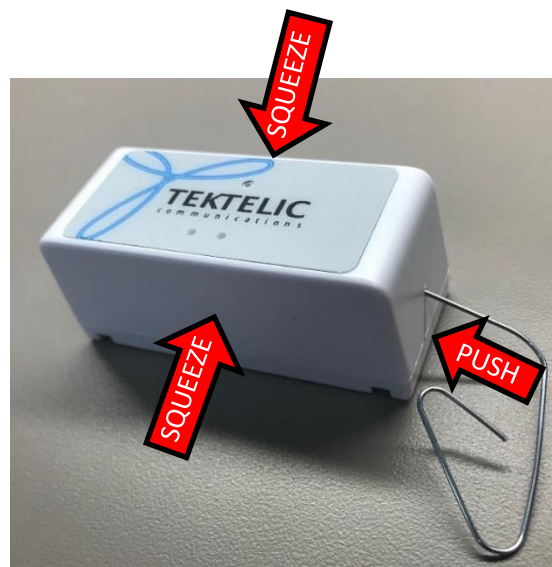

Figure 2-3: Opening the BLE Tracker Enclosure.
1. Insert the end of a paper clip or similarly thin object into the case-release hole on the right side of the Tracker. Push the paper clip straight in while simultaneously squeezing the middles of the sides of the top portion of the enclosure as shown in Figure 2-3. The top and bottom should unclip from each other and separate.